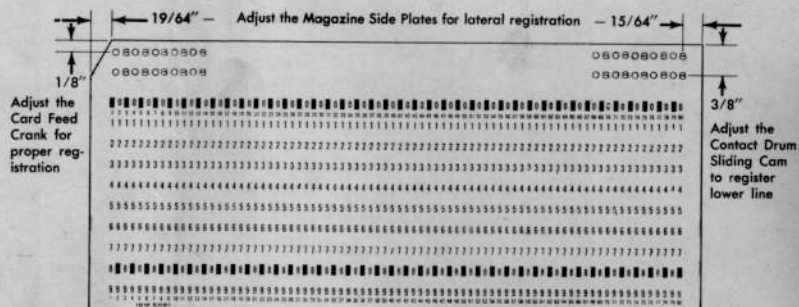

Figure 1. Printing Registration
Lateral Printing Adjustment. The printing adjustment is obtained by delivering the card to the printing position in the proper registration. Position the hopper side plates by means of the adjustable bushings so the card is aligned to the print bars to cause printing as shown in Figure 1. There should be a .005"-.008" clearance over the length of the cards.
4. **Vertical Printing Adjustment.** Loosen the setscrews which hold the card-feed crank to the shaft and shift the knives to deliver the card to the printing position at the proper time. This should result in causing the printing to be centered on a line $\frac{1}{8}$ " from the leading edge of the card (Figure 1). If the condition of step 3 is met and the printing is off registration, check the contact drum brake.